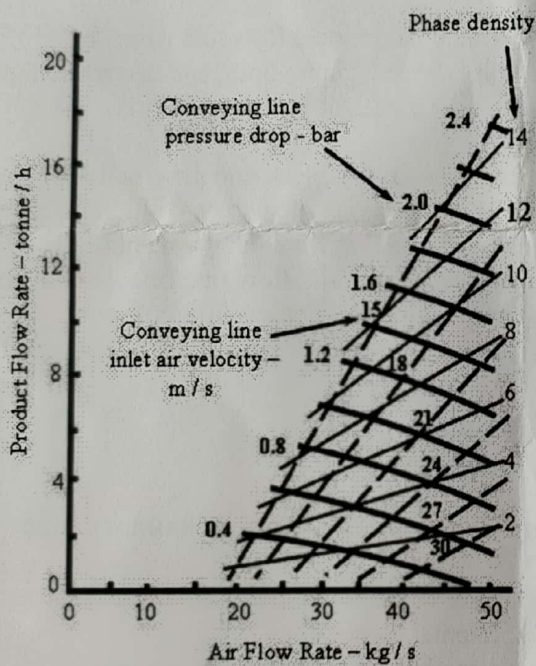

Figure 1: Conveying Characteristics with lines of Constant Conveying Air Velocity Added for Cryolite
- Q.2 (a) What are the major operational problems encountered in pneumatic conveying systems and what are their reasons. What precautions can be taken to minimize the effect of such problems. (3)
- (b) Discuss the influence of impact angle and impact velocity on erosion. (2)
- Q.3 Figs 1 and 2 show the conveying characteristics for Cryolite and Dicalcium Phosphate. Explain the difference in the conveying behavior of the two materials and explain the limitations on these conveying characteristics. (4)